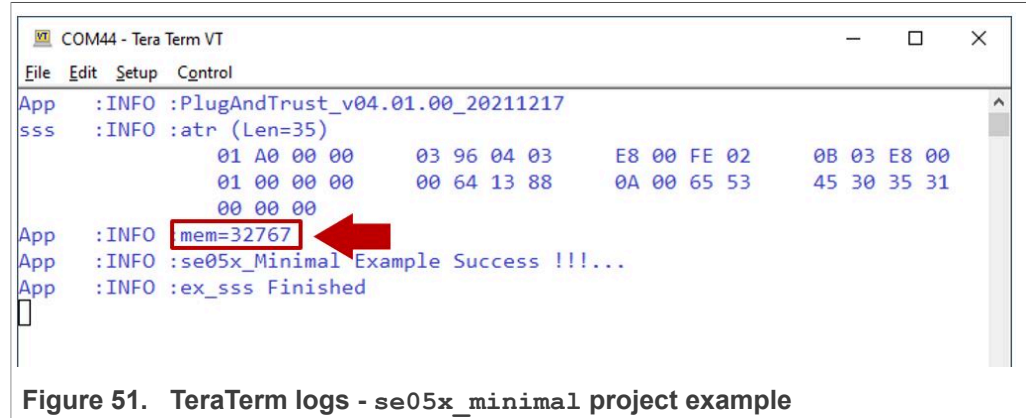

Figure 51. TeraTerm logs - se05x_minimal project example
- The project example should now be running in your board. If it is running successfully, the TeraTerm logs should indicate the available memory in the secure element (in this case 32767), as can be seen in Figure 51. The same operations can be repeated to run any of the other Plug & Trust middleware project examples.